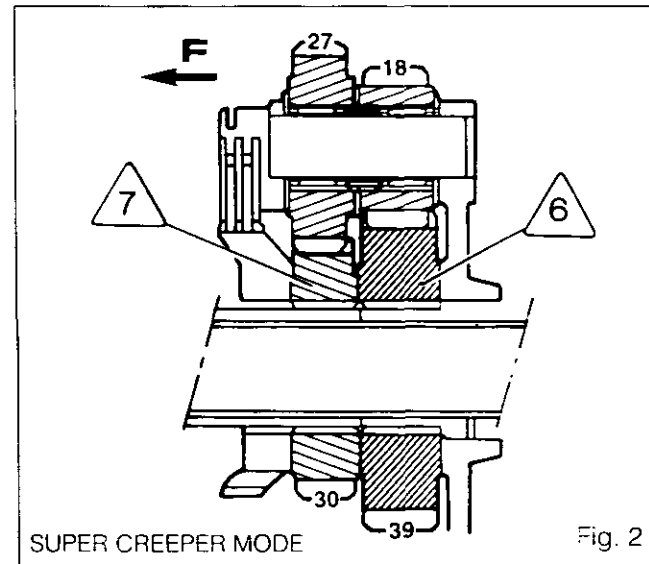

Fig. 2
- version with super creeper gears (Fig. 2).